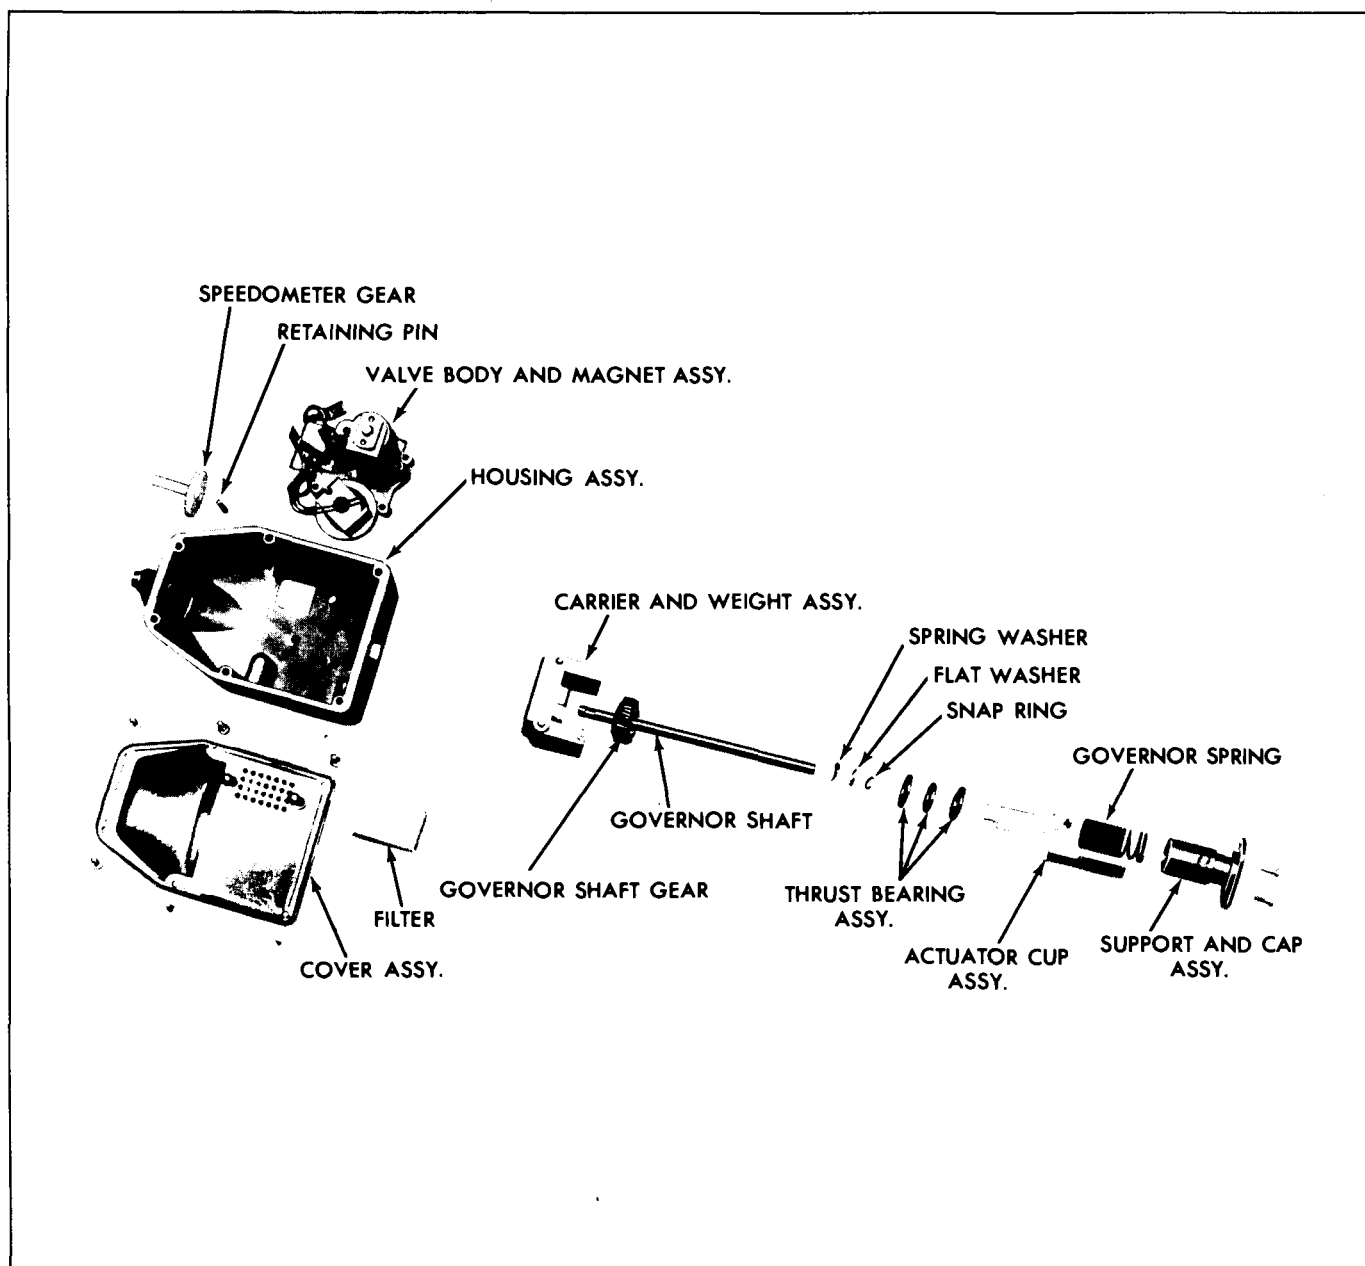

Fig. 15-18 Regulator - Exploded View
DISASSEMBLE (Fig. 15-18)
5. Slide the governor assembly away from the speedometer drive adapter end until the shaft is free of bearing. This will allow the governor assembly to be removed from the regulator. For further disassembly of governor, see Fig. 15-18.